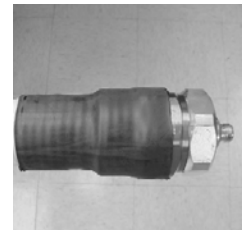

Figure 9
- 7) **For R and FV jacket types**, **seal** connector with appropriate weatherproofing. Ensure that seal begins with connector and extends at least 2" past the beginning of cable jacket (Figure 9).